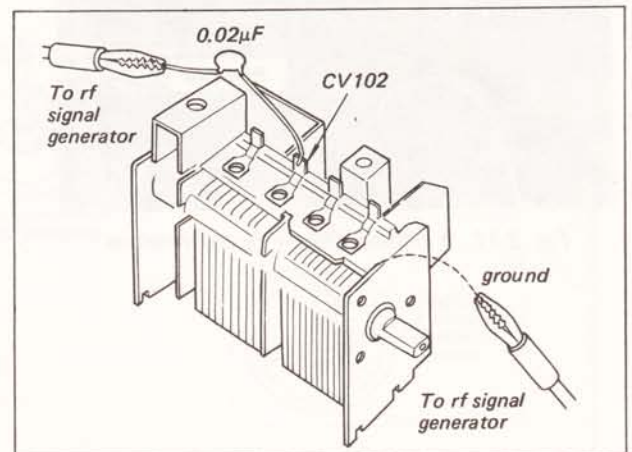

Fig. 3-4. 10.7MHz signal injection
2. Connect the output cable of the generator across CV102 on the fm (a-m) front-end/i-f amp/MPX board through a 0.02μF coupling capacitor as shown in Fig. 3-4.